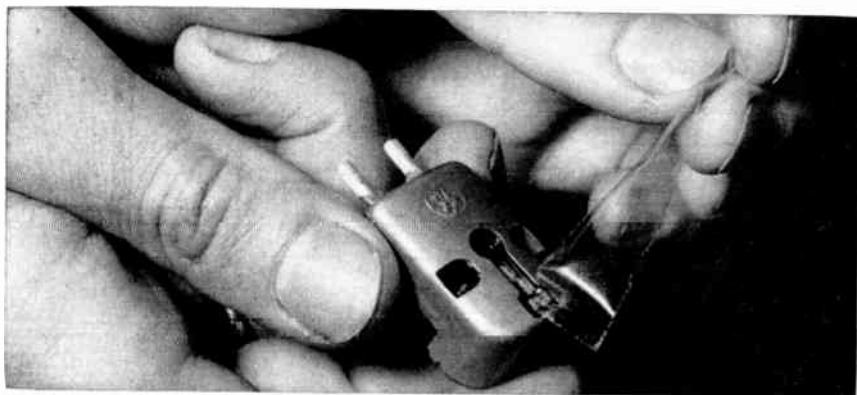

Fig. 10. Cleaning dust and iron particles from air gaps around needle point in a GE cartridge by sliding in a piece of Scotch tape. (GE photo)
**Cleaning GE Pickups.** Pickups of the GE type require occasional cleaning of the air gaps between the needle and the pole pieces. Fuzz and dirt particles accumulating here can be rubbed off with the fingers or blown off. Iron filings are more persistent, but can be removed easily by threading Scotch tape through the air gap a few times to pick up the particles, as in Fig. 10.